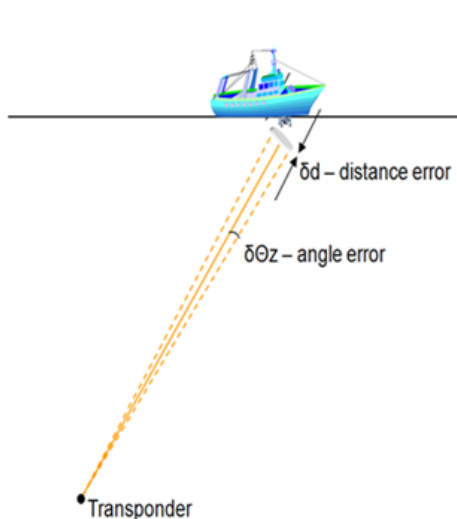
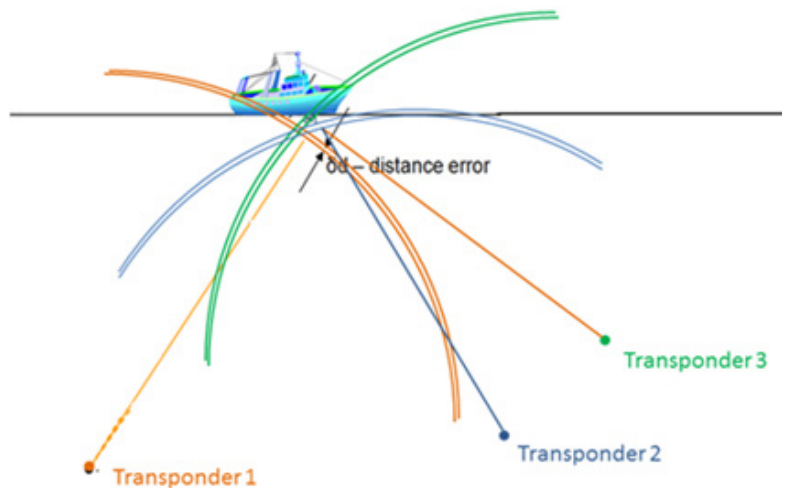

Figure 69 – USBL computation
Figure 70 – LBL computation
- If less than three moored transponders are available then the position is computed by USBL (see Figure 69).
- If at least three moored transponders are available then the positioning is provided by both USBL and LBL computations (see Figure 69 and Figure 70). The LBL computation is made from the travel distances of at least three moored transponders.